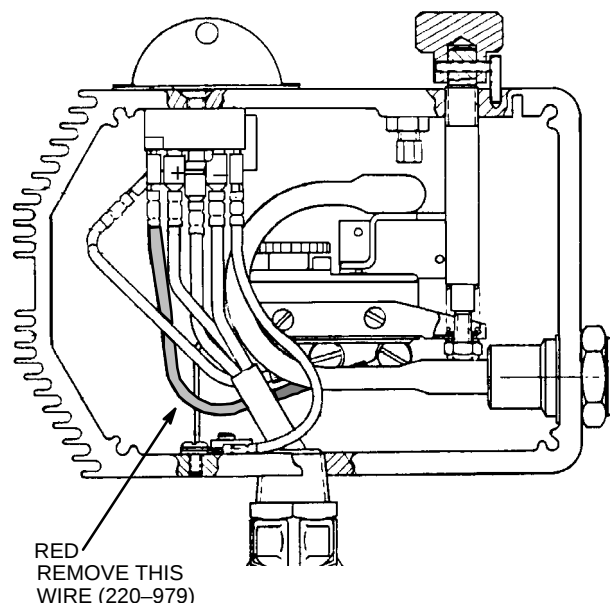

Fig 2
4. Remove the red wire (220-979). See Fig 2.